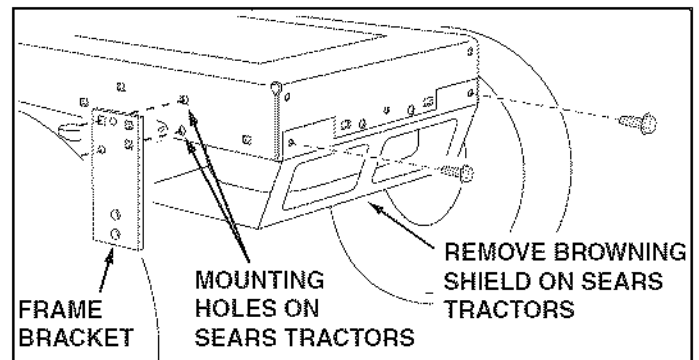

FIGURE 2 - SEARS TRACTOR SHOWN
### STEP 2: (SEE FIGURE 2)
- Use figure 2 to help identify the mounting holes for Sears tractor frames. For other brand tractors, identify the two mounting holes by placing a frame bracket against the tractor frame **in front of** the front axle and finding two holes in the tractor frame that align with two of the holes in the frame bracket. The bracket can be flipped over to reverse the hole pattern. Refer also to the illustrations on page 9.